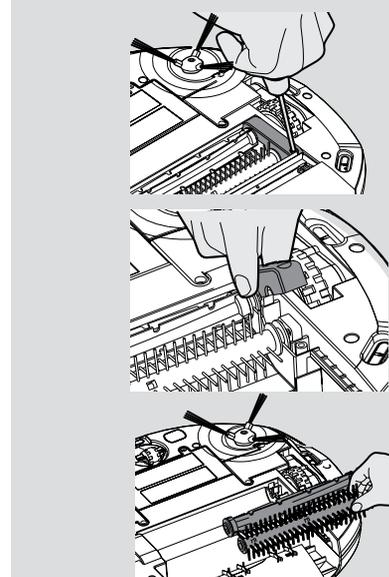

Fig.18
**REPLACING THE AGITATORS [Fig.18]**